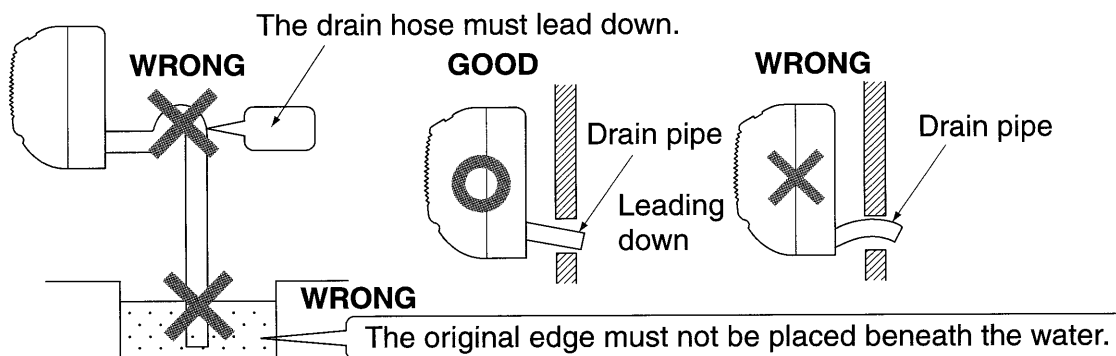

Fig. 14
- Use particular caution when carrying out the steps in the Fig. 14.